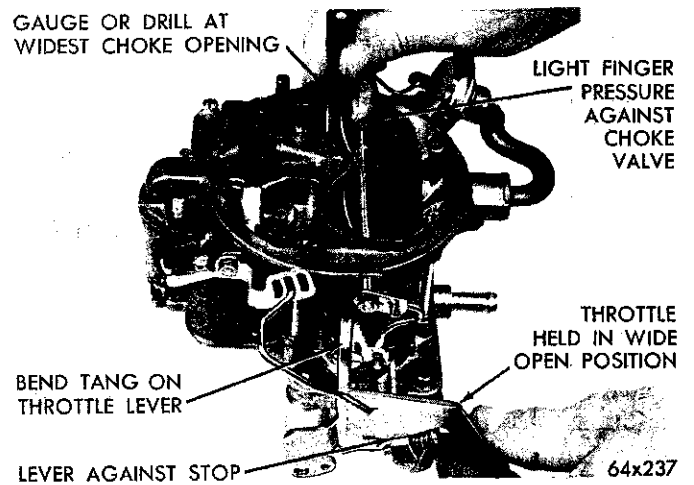

Fig. 21—Unloader Adjustment (Wide Open Kick)
**Unloader Adjustment (Wide Open Kick) (Fig. 21)**
(1) Lightly hold the choke valve closed, then open the throttle valves to the wide open position. The choke valve should be open sufficiently to allow a  $1\frac{5}{64}$  inch drill to be inserted between the choke valve and the wall of the air horn as shown.
(2) To adjust, bend the tang on the throttle lever, using Tool T109-214, until correct opening has been obtained.
(3) Hold the choke valve open and then open and close the throttle valves. Failure to obtain full throttle operation indicates improper assembly.
(4) With the throttle valves held in an open posi-